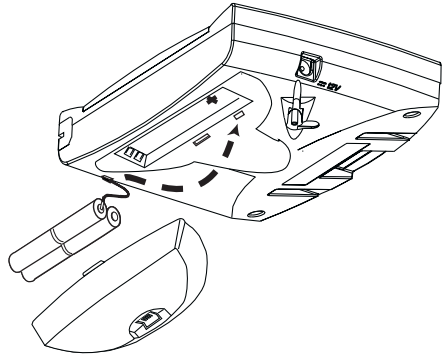

Figure 32: Battery Installation
2. Remove the battery door (Figure 32) by pressing the tab on the front of the battery door and pulling the door off.